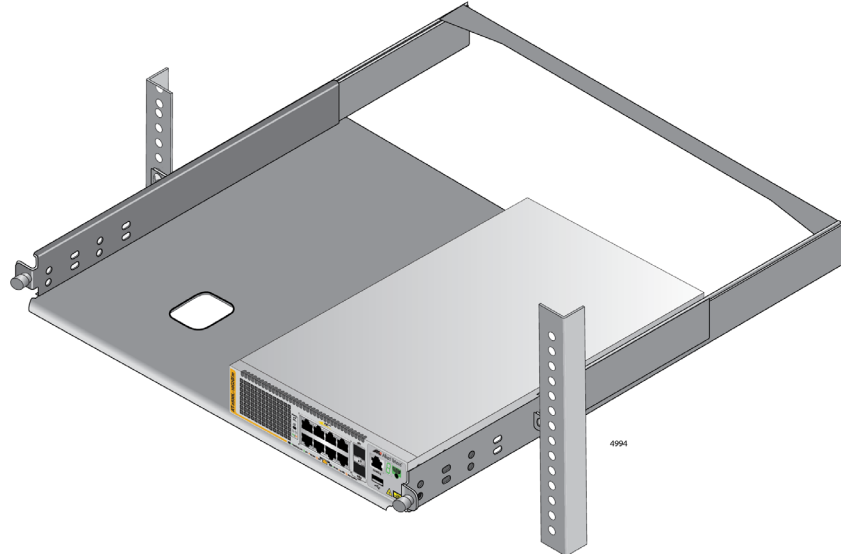

Figure 60. Placing the x530L-10GHXm Switch in the RKMT-J15 Bracket
7. Place the switch on one side of the bracket. Align the front panel with the front edge of the bracket. If you are installing only one switch, you may install it on either the left or right side. Refer to Figure 60.